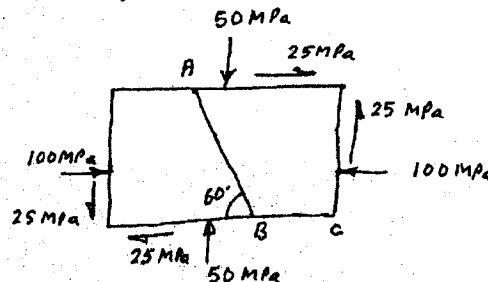

Fig.Q3(b)
b. A machine component is subjected to the stresses as shown in Fig. Q3(b). Find the normal and shearing stresses on the section AB inclined at an angle of 60° with x - x axis. Also find the resultant stress on the section. Verify the above results by drawing Mohr's circle.